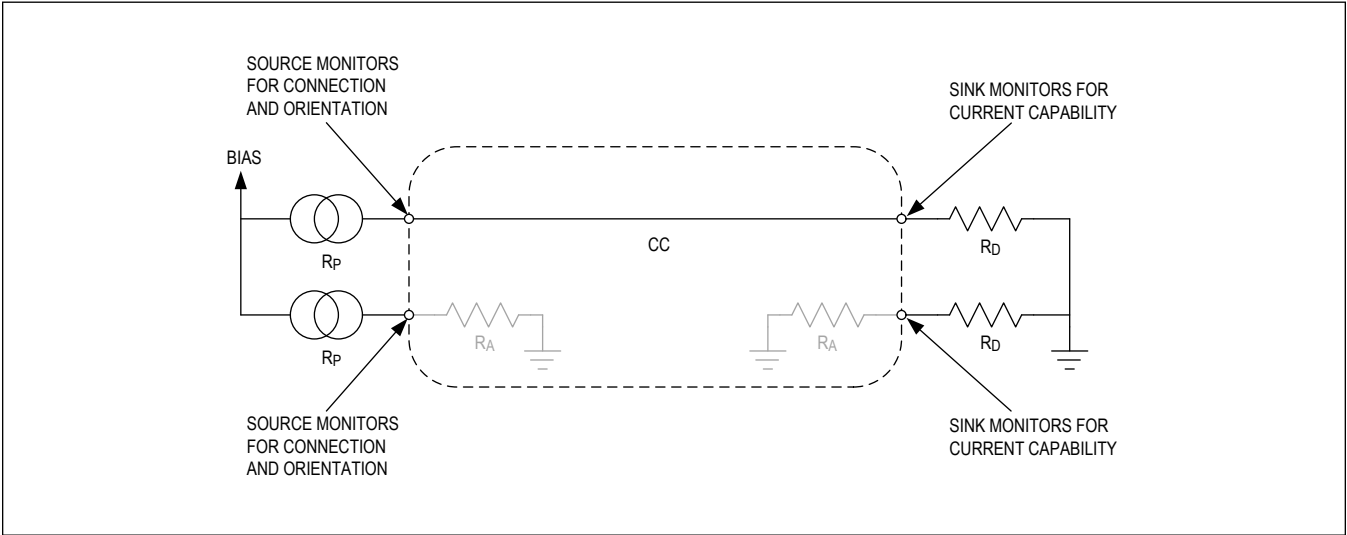

Figure 1. Type-C Pullup Model
The CC pins utilize combinations of pullups and pulldowns to detect Type-C device attachment, advertise the current capabilities of the source, and detect the type and orientation of the cable and the device. There are three possible pullup resistors (RP) that represent the three source current capabilities: 0.5A, 1.5A, and 3A. There are also two possible device pulldown resistors (RA and RD) to provide device and cable information to the host. Figure 1 shows how these are used